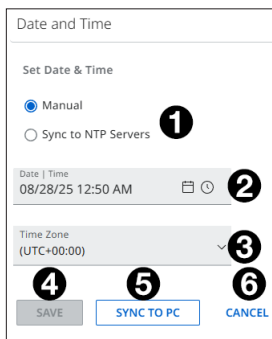

Figure 47. Setting Date and Time
1. Select **Manual** (see figure 47, **1**, on page 51).
When you select a date, the calendar closes and returns to the screen shown in figure 47.
10. Select a **Time Zone** from the drop-down list (see figure 47, **3**).
11. Click **SAVE** (see figure 47, **4** page 13).